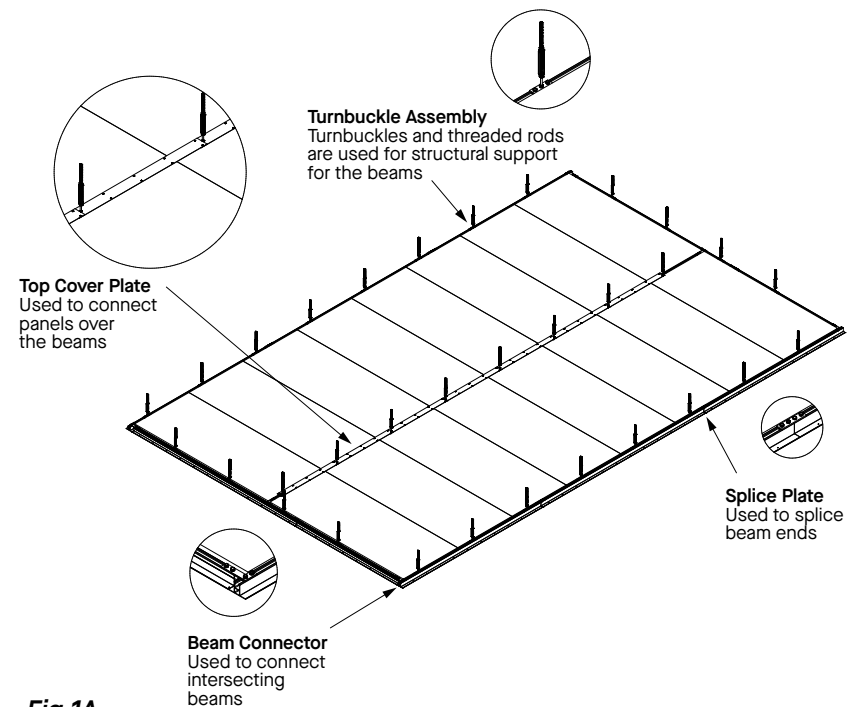

Fig 1A
1.1 Skylo™ Walkable Ceiling Systems are designed and constructed to support the weight of personnel and equipment. These systems provide interstitial space for HVAC systems, lighting, and other utilities, allowing for easy maintenance without compromising the cleanroom environment of the space below. This reduces downtime and eliminates the need for scaffolding or lifts. The diagram in **(Fig 1A)** provides an overview of the Skylo suspension system components, clips, and accessories.